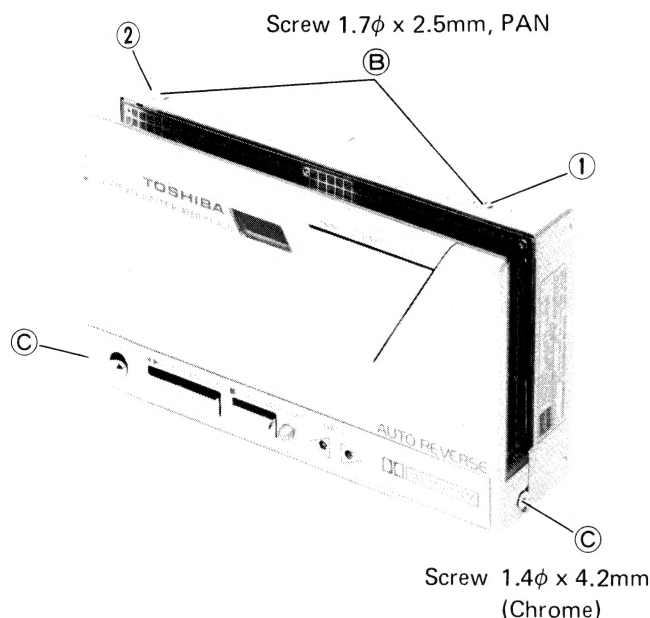

Figure 2
2. Remove an ornamental screw and volume knob of back cabinet, and the front and the back cabinets will be removed. (Figure 2)